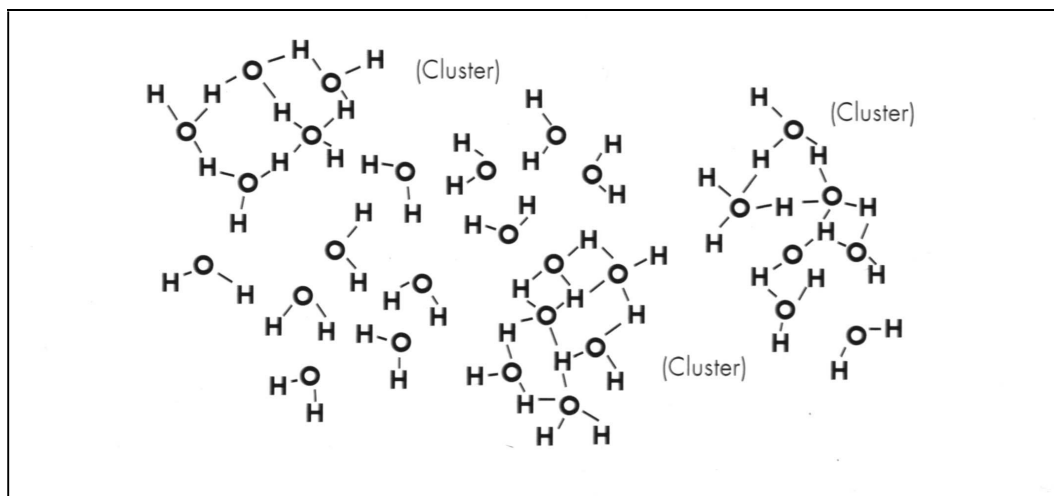

Fig. 1: Schematic outline of clusters in liquid water.
The molecular structure of liquid water determines the characteristics shown above. The molecular structure of water was first proposed in 1933 by J.D. Bernal and R.H. Fowler - a theory which is still acknowledged in modern times. It was described as consisting of netish and ice-like water molecules - referred to as "Clusters" (Fig. 1).
**M**icro-particles, which exist in water, would normally be the ideal alternative 'host' for the dissolved minerals in the water, but they are surrounded by water molecules. (Fig 1.) Water molecules surrounding the micro-particles. Calcium particles are attracted to a permanent surface, i.e., pipe walls, heating surfaces etc.